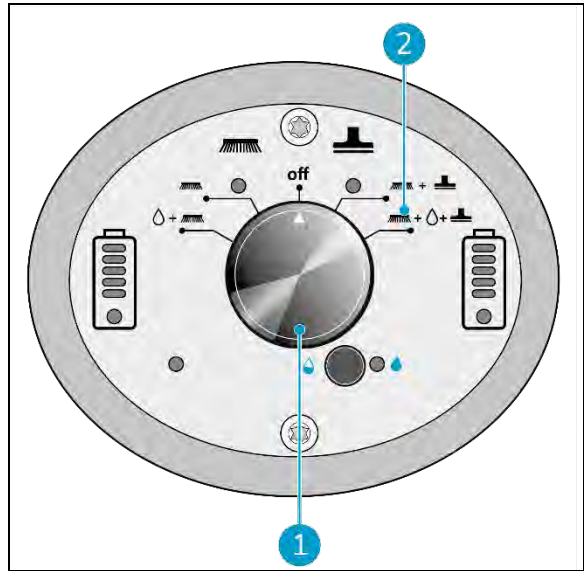

Figure 28
2. Use the i-mop XL Pro main switch (Figure 28, pos. 1) and choose MODE 4 Brush + Water/Cleaning solution + Dry vacuum (Figure 28, pos. 2).